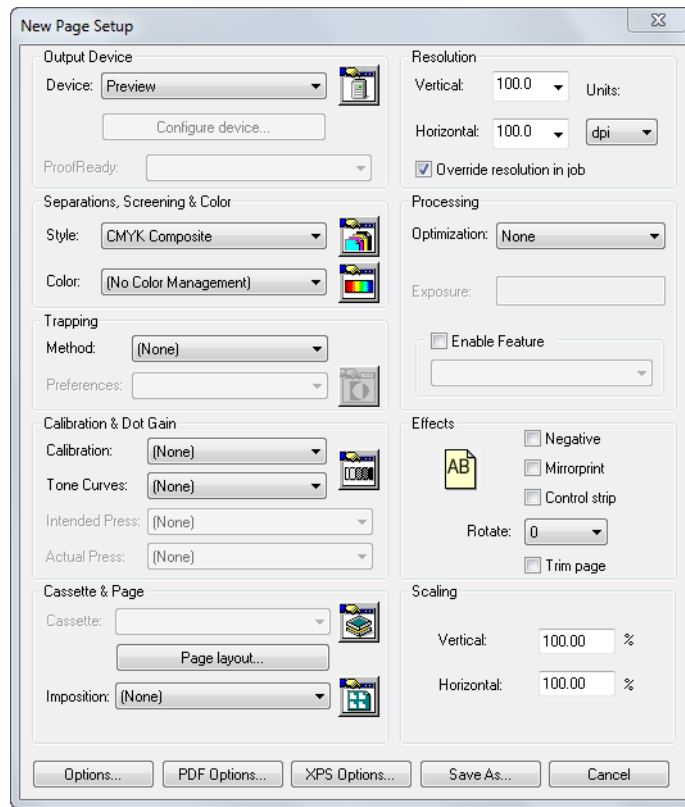

Figure 3.2 New Page Setup dialog box
3. In the Edit Page Setup dialog box, shown in Figure 3.2, set the **Device** to **None** and the **Vertical** and **Horizontal** resolutions to something small, say 72 dpi. If you change the **Device**, you must choose a separations style listed in the **Style** drop-down list and, for some devices, a cassette name from the **Cassette** drop-down list.
2. In the Page Setup Manager dialog box, select `Default Page Setup` and click **Copy** to display the New Page Setup dialog box. The New Page Setup dialog box is very similar to the Edit Page Setup dialog box, shown in Figure 3.2 on page 55.